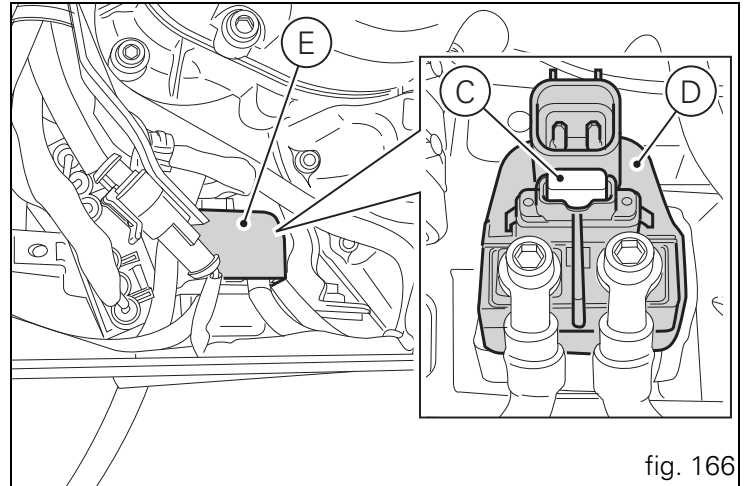

fig. 166
MASTER FUSE, protected by a 30A fuse located on the solenoid starter, behind the battery (C, fig. 166).
The main fuse (C, fig. 166) is positioned next to the battery, on the solenoid starter (D). Remove the fuse cap (E) to reach it.